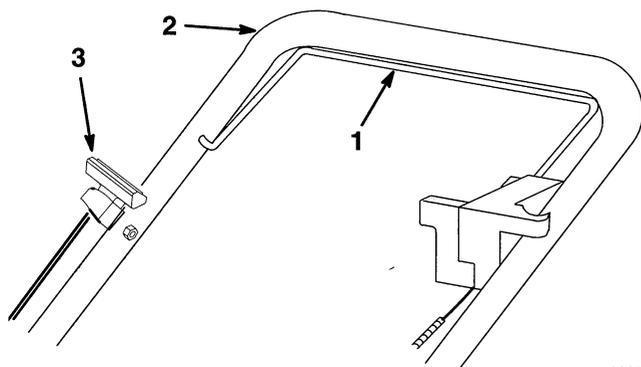

Figure 32
9. Holding control bar against handle pull starter rope several times to blow out loose carbon (Fig. 32).